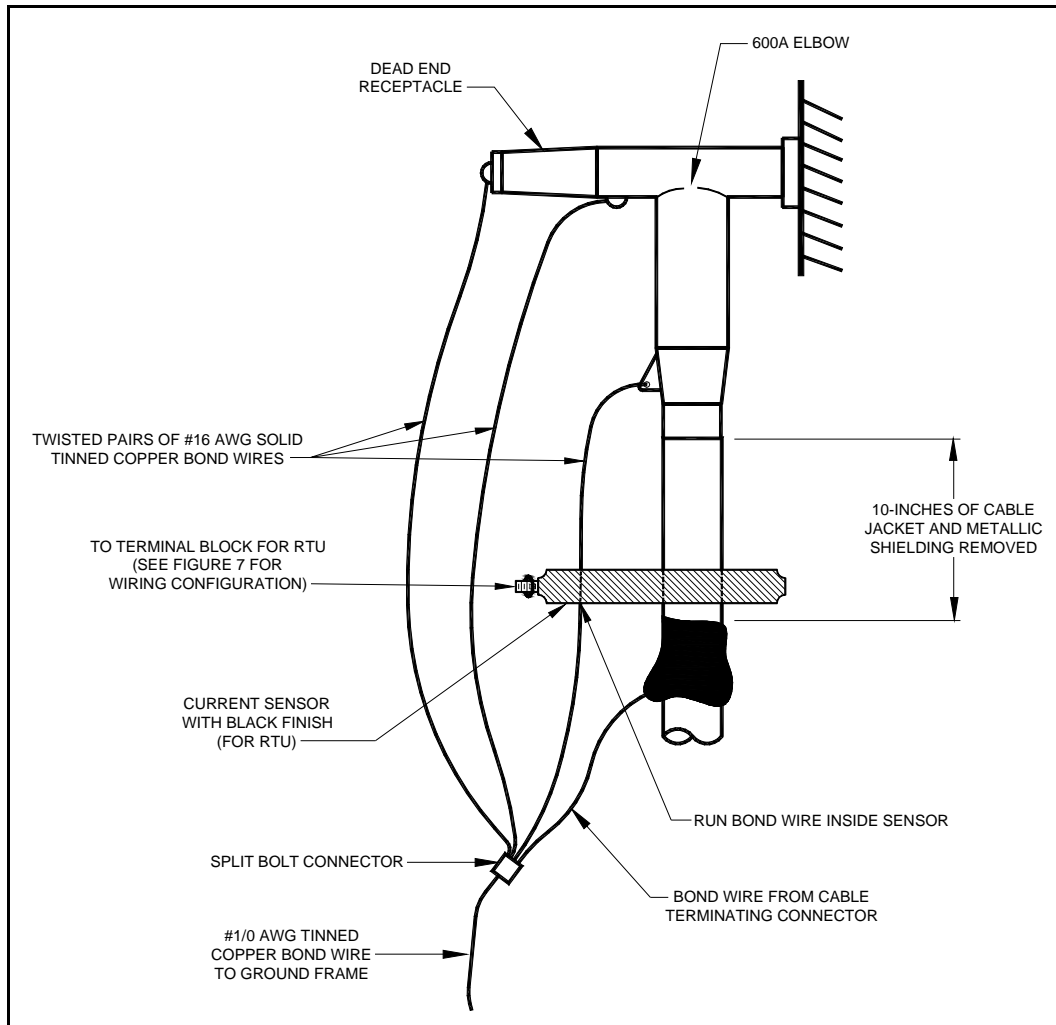

Figure 8 – 15kV Current Sensor Installation for motor operated PME-9 with RTU
- 2.12 When current sensors are to be used, install current sensors on each of the 600 Amp main cables where the cable jacket and metallic shielding have been removed below the elbow, as shown in Figure 8.